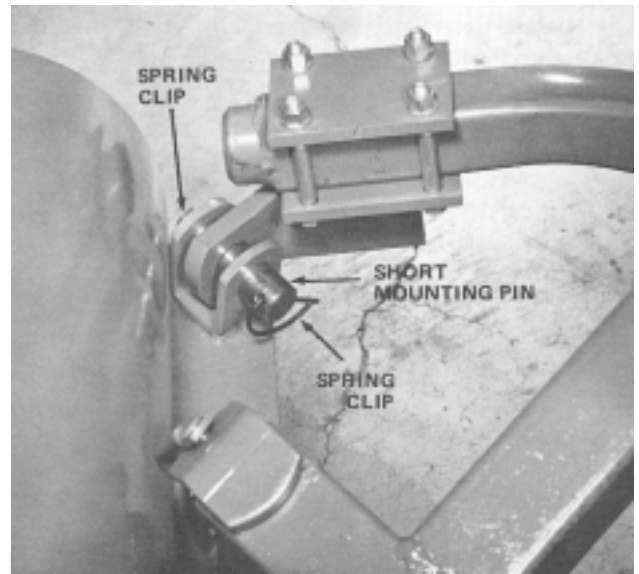

Figure 7
4. Secure right side of plow to push arm bracket with short mounting pin. Retain pin, plow and bracket together with spring clips (Fig. 7).